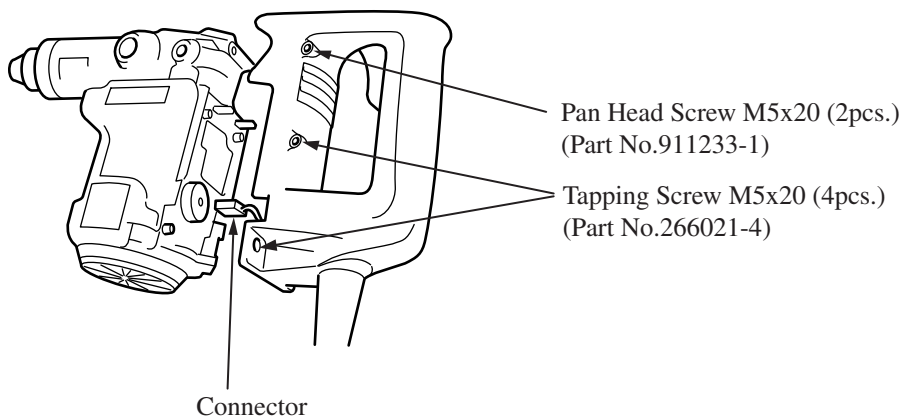

Figure 10
3. Remove six screws, and then remove Handle. (See Fig.10.)
4. Separate Connector from Motor Housing. (See Fig.10.)